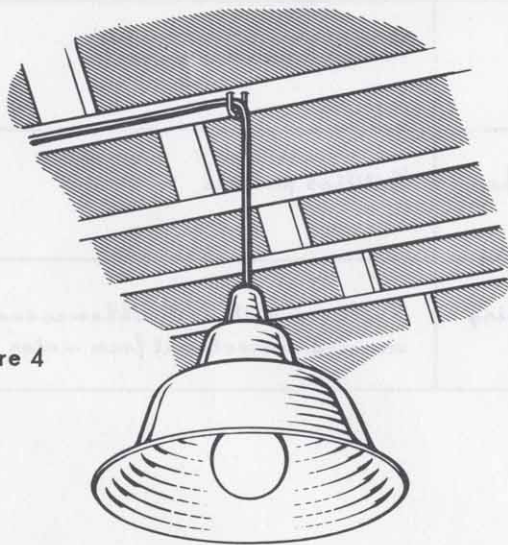

Figure 4
- 4. Heat lamps not properly supported by non-current carrying wire, chains, or brackets (Figure 4) _____